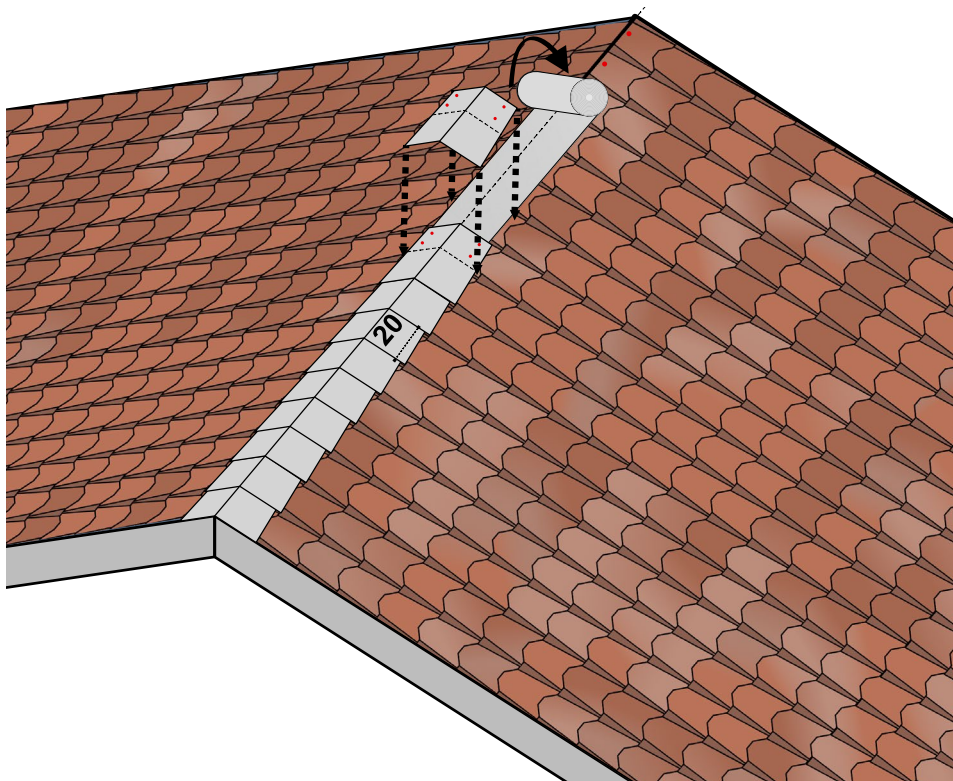

Fig. 15 - Top Roll and ridge elements installation
- Leave an exposed part of 20 cm between one ridge component and the next - Fig. 15.